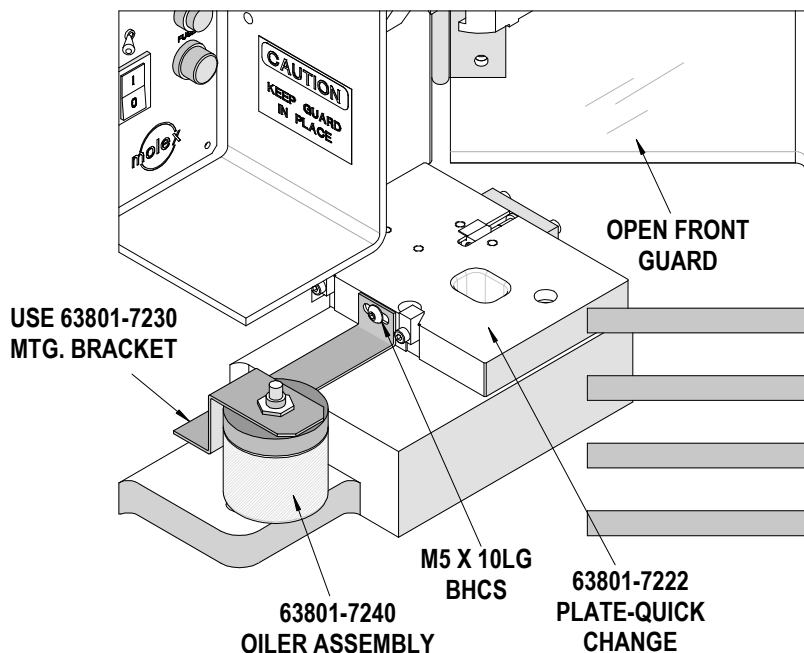

Figure 1
6. Mount terminal oiler assembly with bracket on the side of the Plate-Quick Change (63801-7222) installed on the TM-3000 Press. See Figure 1.